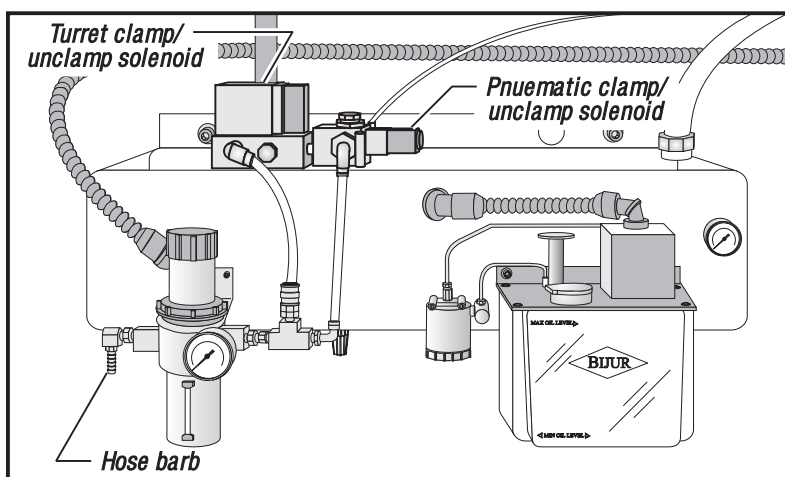

Figure 4-1. Front view of lube/air panel.
2. Disconnect the two air hoses from the pneumatic chuck clamp/unclamp solenoid (see Figure 4-1).
2. Disconnect the three air hoses from the turret clamp/unclamp solenoid (see Figure 4-1).